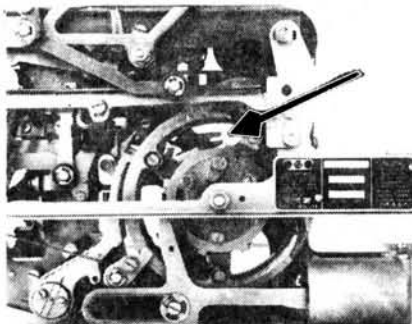

Fig. 2
If you have the "0" bar and the bellcrank shown in Fig.2, you need the 157514 mod. kit. If you are missing either or both of these items, you will need the 152348 mod. kit.
-- Showing the 157514 mod. kit mounted on the bell-crank of Fig. 2.